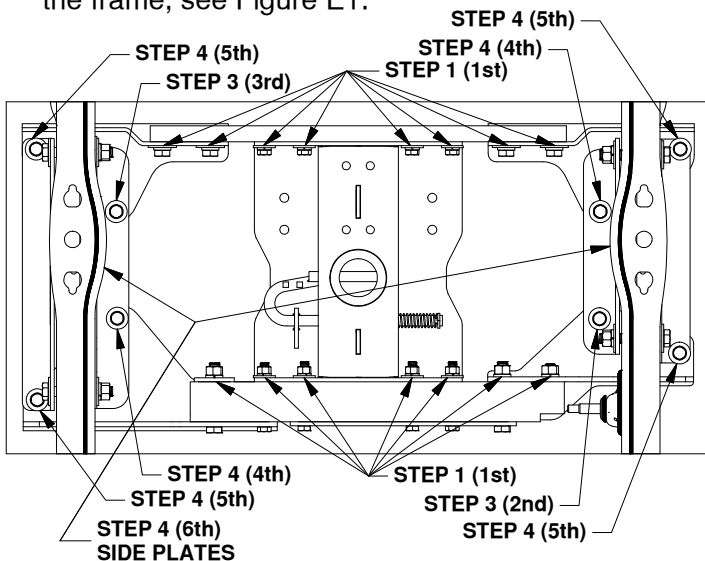

Figure E1: Bottom of truck frame looking up at hitch installation.
1. **Step 1:** First, tighten the hardware attaching the cross members to the center section and each cross member bracket, see Figure E1
3. **Step 3:** Tighten the 1/2" x 1-1/2" bolt with the thread locker pre-applied between the passenger front cross member bracket and the passenger inside side plate. Next tighten the 1/2" x 1-1/2" bolt with thread locker between the driver rear cross member bracket and the driver inside side plate, see Figure E1. Examine the 4" hole again to be sure the socket is still centered in the hole.
4. **Step 4:** Once the hitch is properly located, tighten the remaining two bolts to the inside side plates. Then tighten the bolts with thread locker, that attach the outside side plates and the cross member brackets. Finally tighten the 5/8" bolts holding the side plates to the frame, see Figure E1.